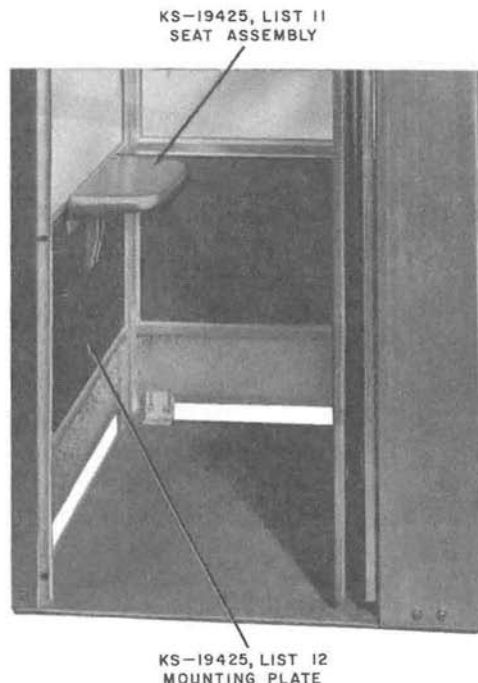

Fig. 11—KS-19425, List 11 Seat Assembly With KS-19425, List 12 Mounting Plate
- 2.22 A KS-19425, List 11 seat assembly (Fig. 11) may be used if desired.
- 2.23 A KS-19425, List 12 mounting plate (Fig. 11) must be used for mounting the seat.